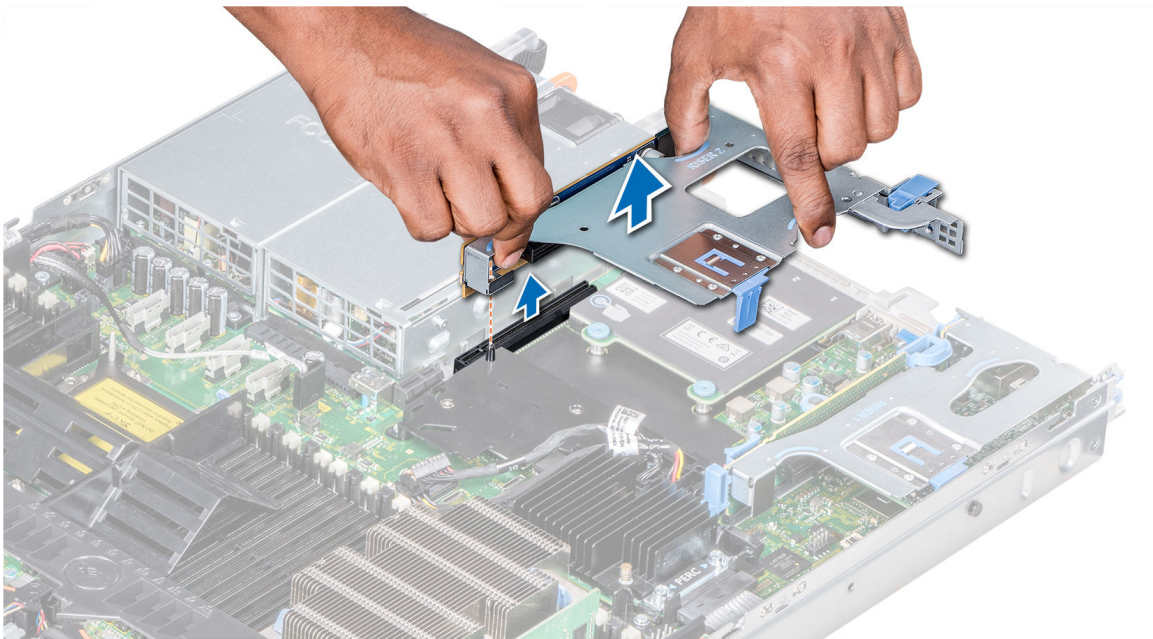
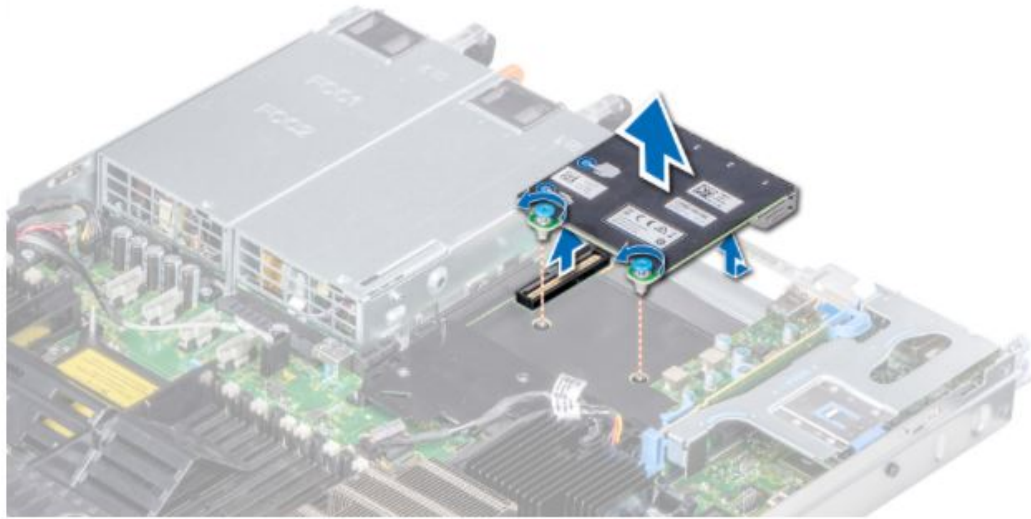

Figure 30: Removing Expansion riser 2B if present (2 CPU systems only)
Figure 31: Removing the Network daughter card
1. On-board 4 port network daughter card (NDC) and riser card connector on the System Board. See Figure 30: Removing Expansion riser 2B if present \(2 CPU systems only\) on page 116 and Figure 31: Removing the Network daughter card on page 117 below.
2. Open the server lid. If working on a single CPU system move to next step. Dual CPU systems will have the 2B riser populated. Remove the expansion card riser 2B. See Figure 30: Removing Expansion riser 2B if present \(2 CPU systems only\) on page 116. A 2 port NIC card will be populated in expansion riser 2B in dual CPU systems with an H750 RAID controller. If that NIC card is operating as expected leave it inserted in its PCIe connector of riser 2B.
3. Refer to Figure 31: Removing the Network daughter card on page 117 while performing this step. Using a #2 Phillips screwdriver, loosen the captive screws that secure the Network Daughter Card (NDC) to the system board.
4. Hold the network daughter card by the edges on either side of the touch points and lift to remove it from the connector on the system board. See Figure 31: Removing the Network daughter card on page 117.